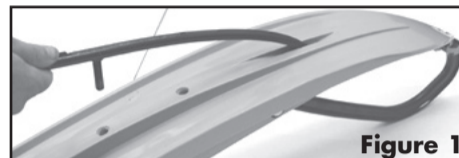
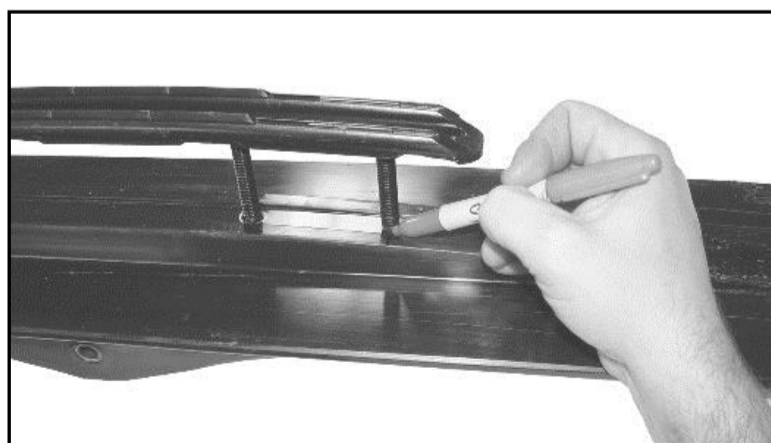
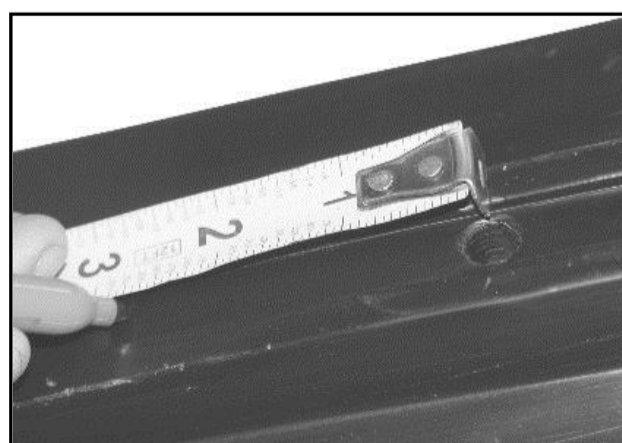

Figure 1
Figure 2
Figure 3
- Insert the front end of the runner into the runner opening or indentation provided in the ski. (figure 1) Swing the rear end of the runner to align the runner bolts with the bolt holes in the ski. Then insert the bolts through the ski. Some pressure may be required. (figure 2)
- 1) Place the 9975 series runner in the 3 bolt holes on the bottom of the ski. The fourth bolt will contact the ski at the point where the additional bolt hole will need to be drilled. (Figure 1) At this point using a marker place a mark on the keel at the center of the fourth bolt. (Figure 2) Or you can measure from the center of the bolt nearest the rear of the ski 2.800" to determine the new bolt hole placement. (Figure 3)